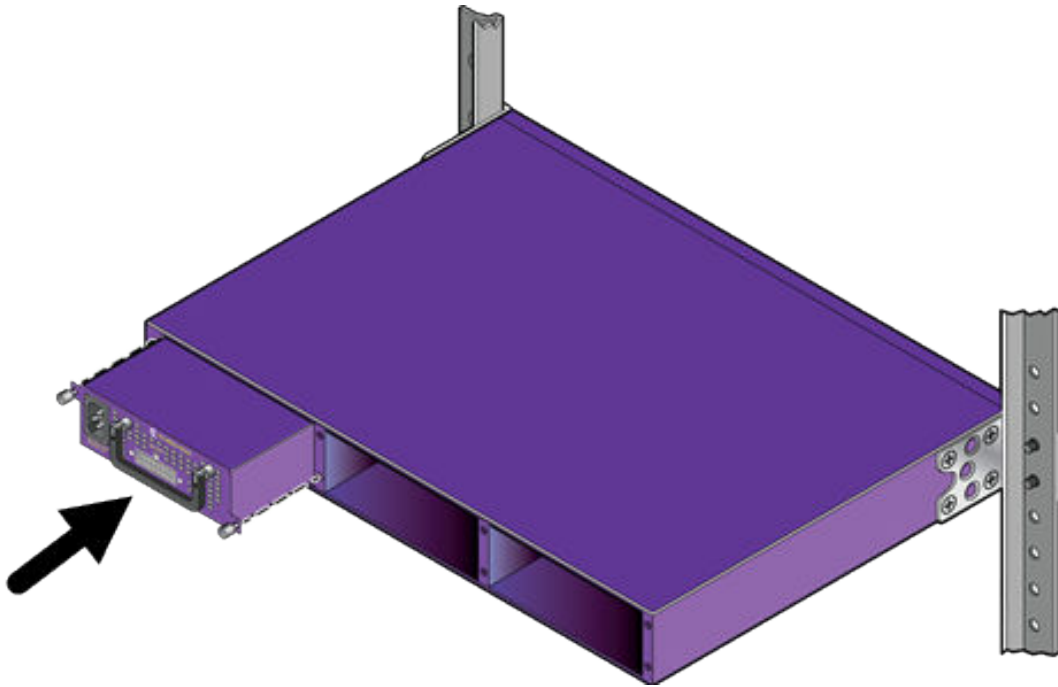

Figure 199: Inserting a VX-RPS-1000 Power Supply into the Shelf
- 3 Slide a power supply into an empty bay in the shelf, as shown in Figure 199.